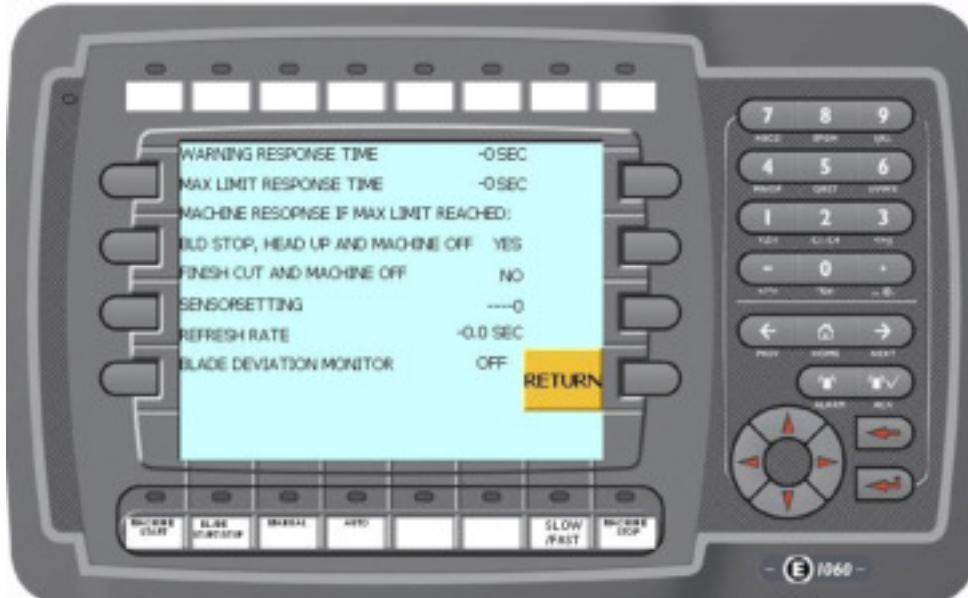

Figure 4. Parameter settings screen.
2. Enter the Parameter screen by pressing function key F6 labeled PARMTRS. The PARAMETER SETTING screen will be displayed (Fig. 4).
To access the PARAMETERS screen (Figure 4), press PARMTR (F6 function key).